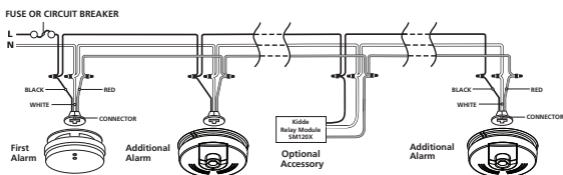

FIGURE 2
- Figure 2 illustrates interconnection wiring. Improper connection will result in damage to the alarm, failure to operate, or a shock hazard.